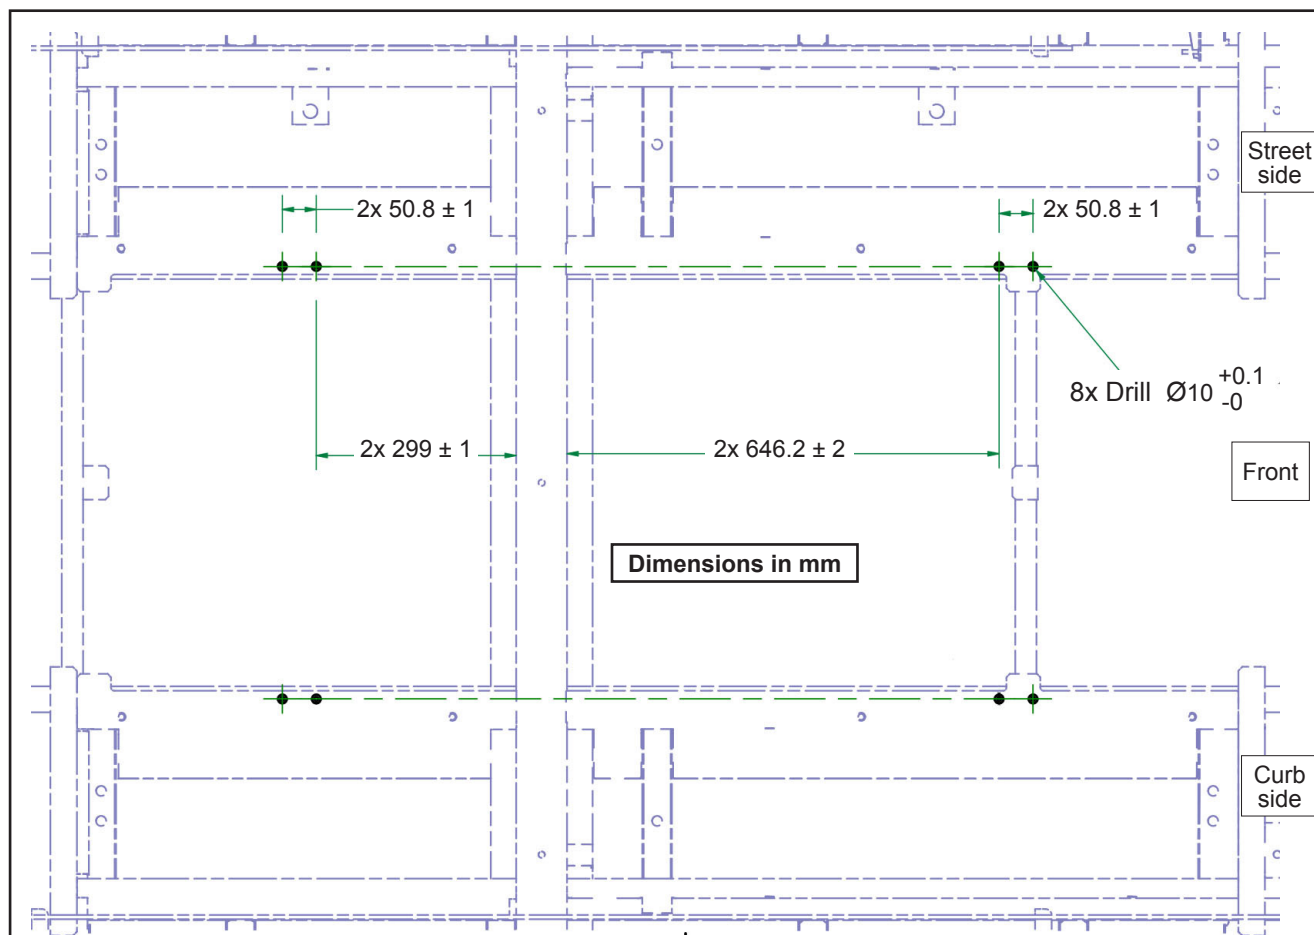

Figure 9 - Dimensions for the Rear Grills (Shown From Inside)
- 1.6. Mark the position of the holes for the hinges. See Figure 7 for all the grills, Figure 8 for the FRONT grills, and Figure 9 for the REAR grills. MAKE SURE THAT THE POSITIONS ARE COMPATIBLE WITH THE HINGES OF THE GRILL BY HOLDING THE HINGE AGAINST THE STRUCTURE.